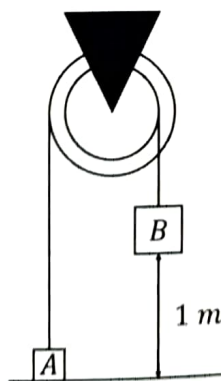

Fig Q2
2. A 20 kg stepped pulley system supports TWO masses on separate cables as shown in Fig Q2. The outer pulley has a 0.8 m diameter, the inner pulley a 0.6 m diameter, the radius of gyration is 0.65 m and frictional torque at the pulley bearings is a constant 0.8 Nm. Mass A is 30 kg and is at rest on horizontal ground when the system is released. Mass B is 45 kg and drops vertically from a height of 1 m.